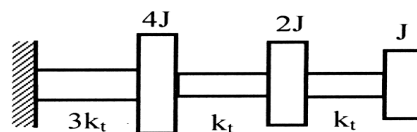

Fig.6, Q. No. 8, P08AU65
8. Determine the natural frequencies of the torsional system shown in Fig.6. Q.8. by using Holzer's method. 20